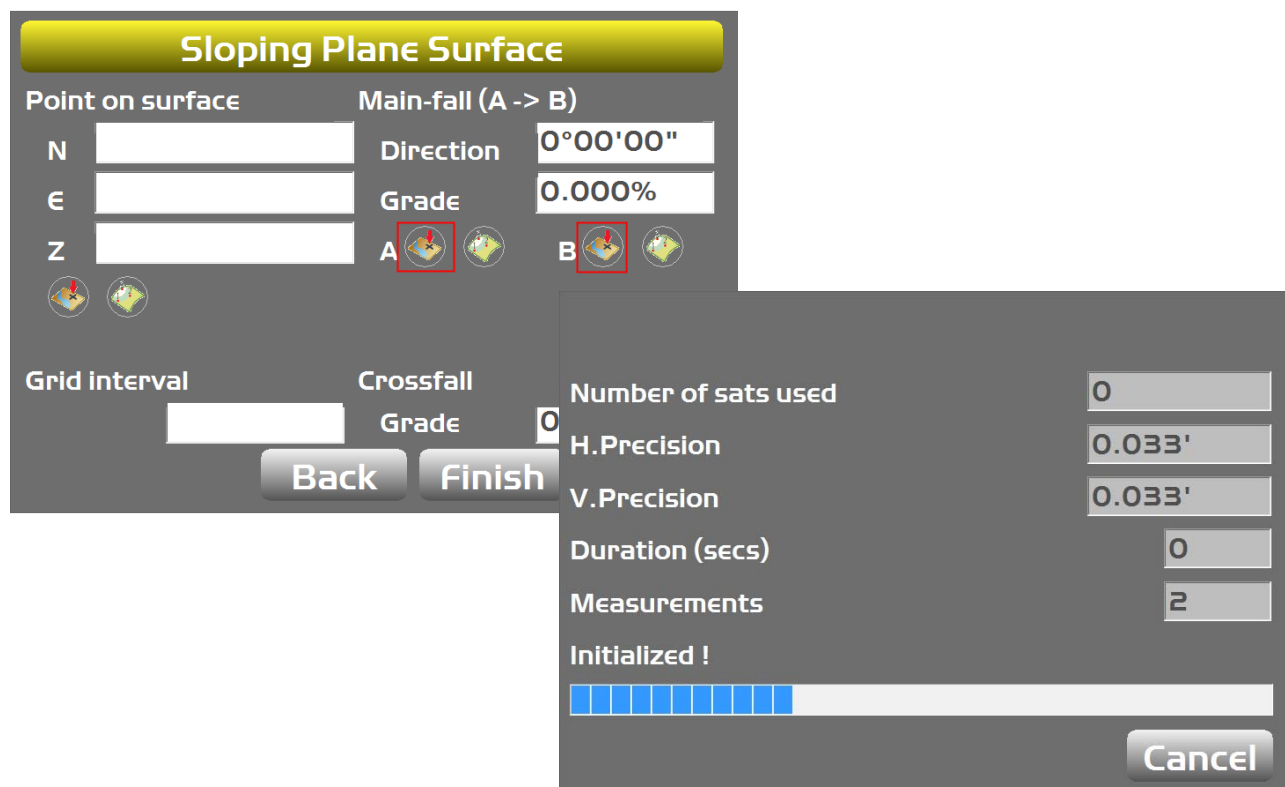

Figure 36: Measure Point A
1. Tap the Measure Point button for **A**. 3D-MC will measure a point (Figure 36).